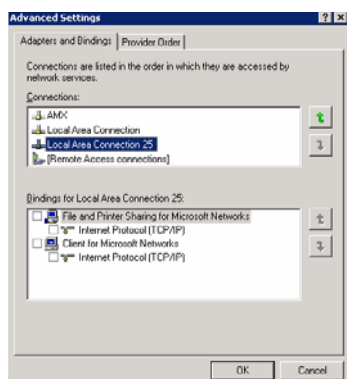

FIG. 112 Bindings for Local area list detail
5. In the lower *Bindings for Local Area Connection* field, unselect ALL bindings by clicking on the checkboxes by each binding to remove the checks from each box (FIG. 112).